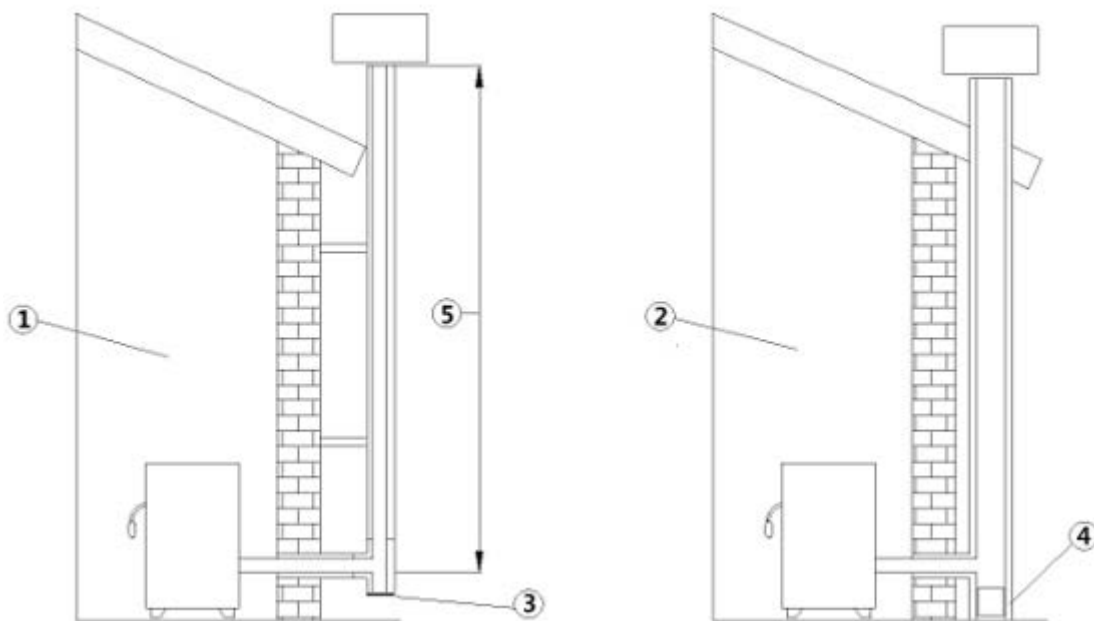

Fig. 2 - Chimney Flues
LEGEND	Fig. 2
- The chimney flue must be sole (see **Fig. 2**) with insulated stainless-steel pipes (1) or installed on the existing chimney flue (2).
- Both this solutions must be endowed with an inspection plug (3) and/or an inspection door (4).